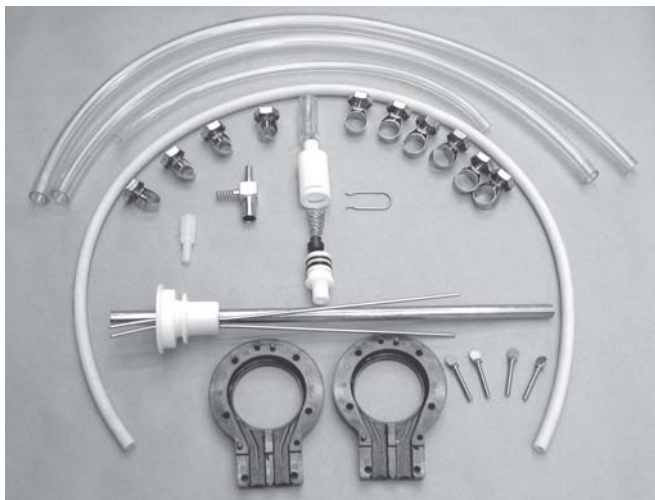

Figure 24. Removable Parts
3. Completely disassemble both hose assemblies and check valve. Place hoses, tee, check valve assembly, and pickup hose adapter in 90° to 110°F (32°C to 43°C), mild detergent water and wash thoroughly. Use soft bristle brushes to clean inside of fittings. Rinse all parts in clean 90° to 110°F (32°C to 43°C) water (see Figure 24).